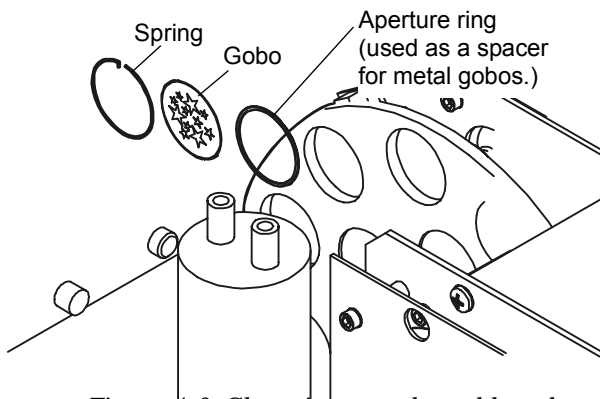

Figure 4-6 Changing a replaceable gobo
5. Referring to Figure 4-6, carefully loosen spring around gobo with the tip of a non-metallic probe.